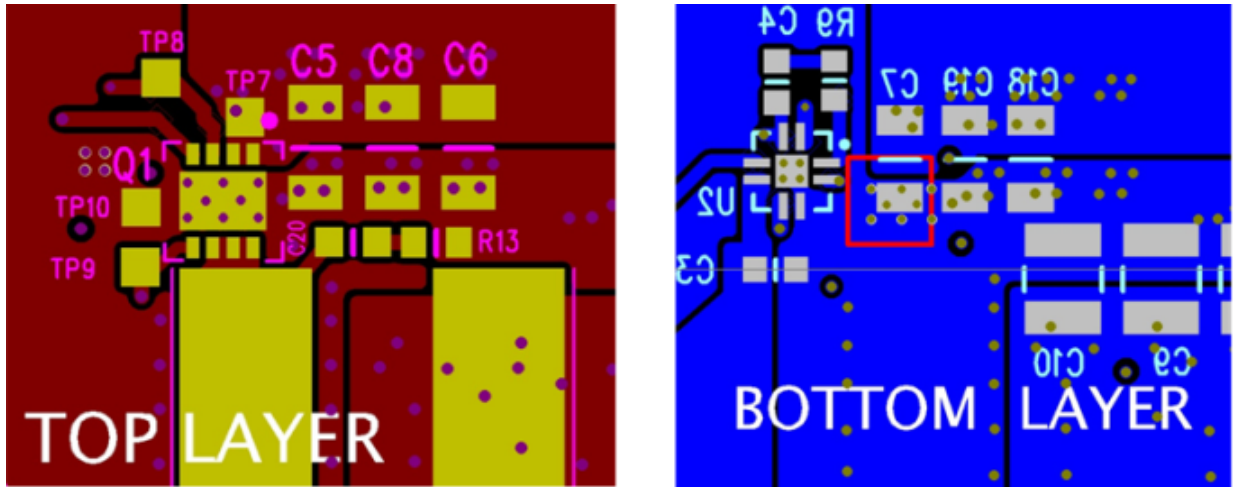

Figure 34. Recommended PCB Layout (Top Down View)
- The placement of the input capacitors relative to the power block's VIN and PGND pins should have the highest priority during the component placement routine. It is critical to minimize these node lengths. As such, ceramic input capacitors need to be placed as close as possible to the VIN and PGND pins (see Figure 34). The example in Figure 34 uses 6  $\times$  10- $\mu$ F ceramic capacitors (TDK part C3216X5R1C106KT or equivalent). Notice there are ceramic capacitors on both sides of the board with an appropriate amount of vias interconnecting both layers. In terms of priority of placement next to the power block, C5, C7, C19, and C8 should follow in order.
- The switching node of the output inductor should be placed relatively close to the power block VSW pins. Minimizing the node length between these two components will reduce the PCB conduction losses and actually reduce the switching noise level. In the event the switch node waveform exhibits ringing that reaches undesirable levels, the use of a boost resistor or RC snubber can be an effective way to easily reduce the peak ring level. The recommended boost resistor value will range between 1  $\Omega$  to 4.7  $\Omega$  depending on the output characteristics of driver IC used in conjunction with the power block. The RC snubber values can range from 0.5  $\Omega$  to 2.2  $\Omega$  for the R and 330 pF to 2200 pF for the C. Please refer to Snubber Circuits: Theory, Design and Application (SLUP100) for more details on how to properly tune the RC snubber values. The RC snubber should be placed as close as possible to the VSW node and PGND see Figure 34. (1)
- Use the smallest drill size allowed in your design. The example in Figure 34 uses vias with a 10-mil drill hole and a 16-mil capture pad.